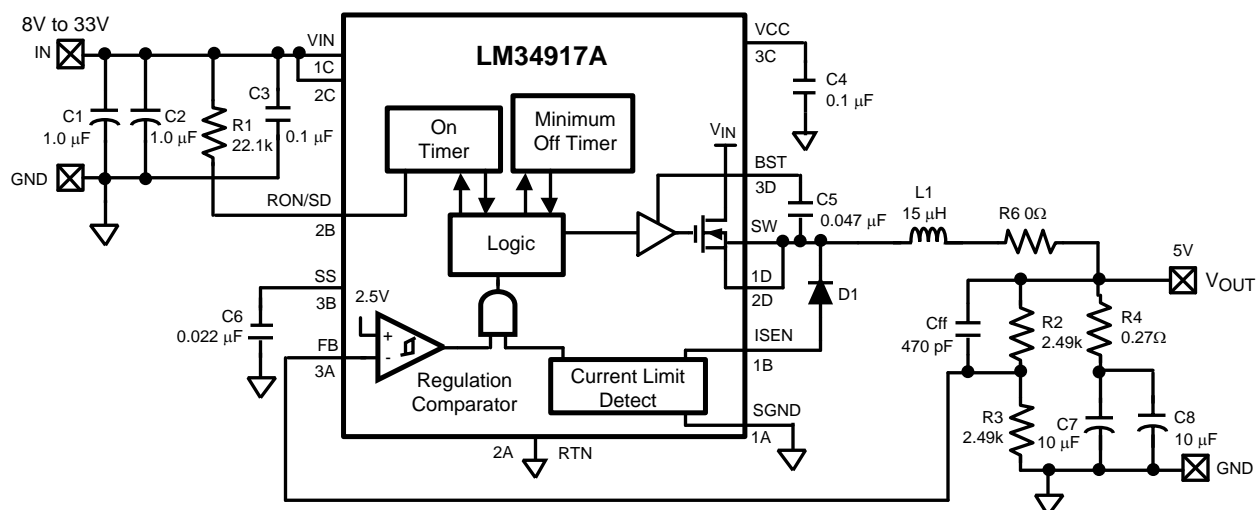

Figure 3. Intermediate Ripple Configuration Using Cff and R4
B) Intermediate Ripple Level Configuration: This configuration generates more ripple at V_{OUT} than the option A configuration, but uses one less capacitor. If some ripple can be tolerated in the application, this configuration is slightly more economical, and simpler. R5, C9 and C10 are removed. R4 and Cff are added as shown in Figure 3.
where $t_{ON(max)}$ is the maximum on-time (at minimum V_{IN}), and $R2//R3$ is the equivalent parallel value of the feedback resistors. For this evaluation board $t_{ON(max)}$ is approximately 510 ns, and $R2//R3 = 1.25 \text{ k}\Omega$, and Cff calculates to a minimum of 408 pF. In the circuit of Figure 3 the ripple at V_{OUT} ranges from $\approx 32 \text{ mVp-p}$ to $\approx 84 \text{ mVp-p}$ over the input voltage range.